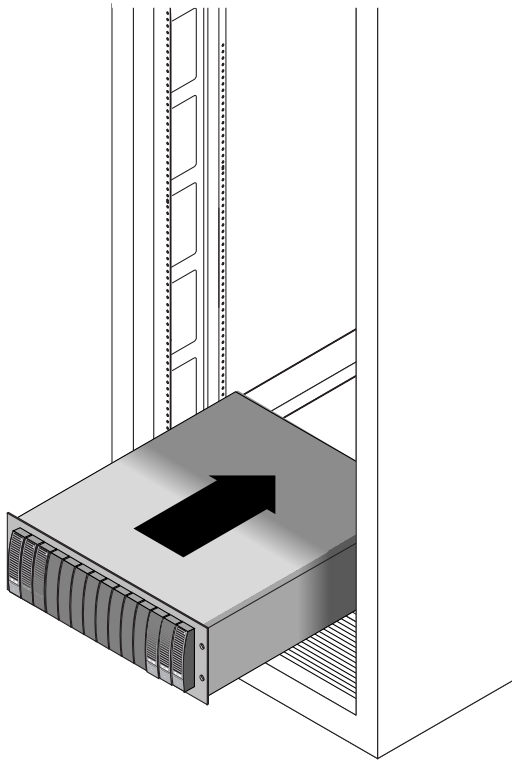

FIGURE 2-10 Sliding the Enclosure Into the Cabinet
3. Carefully slide the enclosure into the cabinet until the front flanges of the enclosure touch the vertical face of the cabinet (FIGURE 2-10).